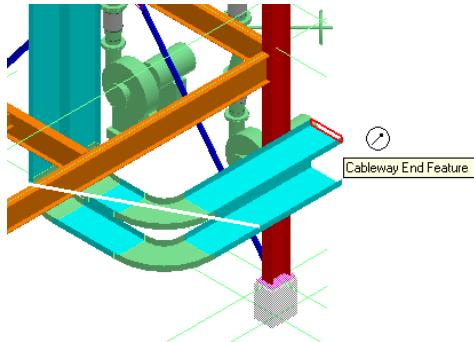

Figure 15: Selected End Feature of Top Tray
8. The system prompts for a position on the cableway for **Entry Point**. Select the **End Feature** of the top tray, as shown in Figure 15.